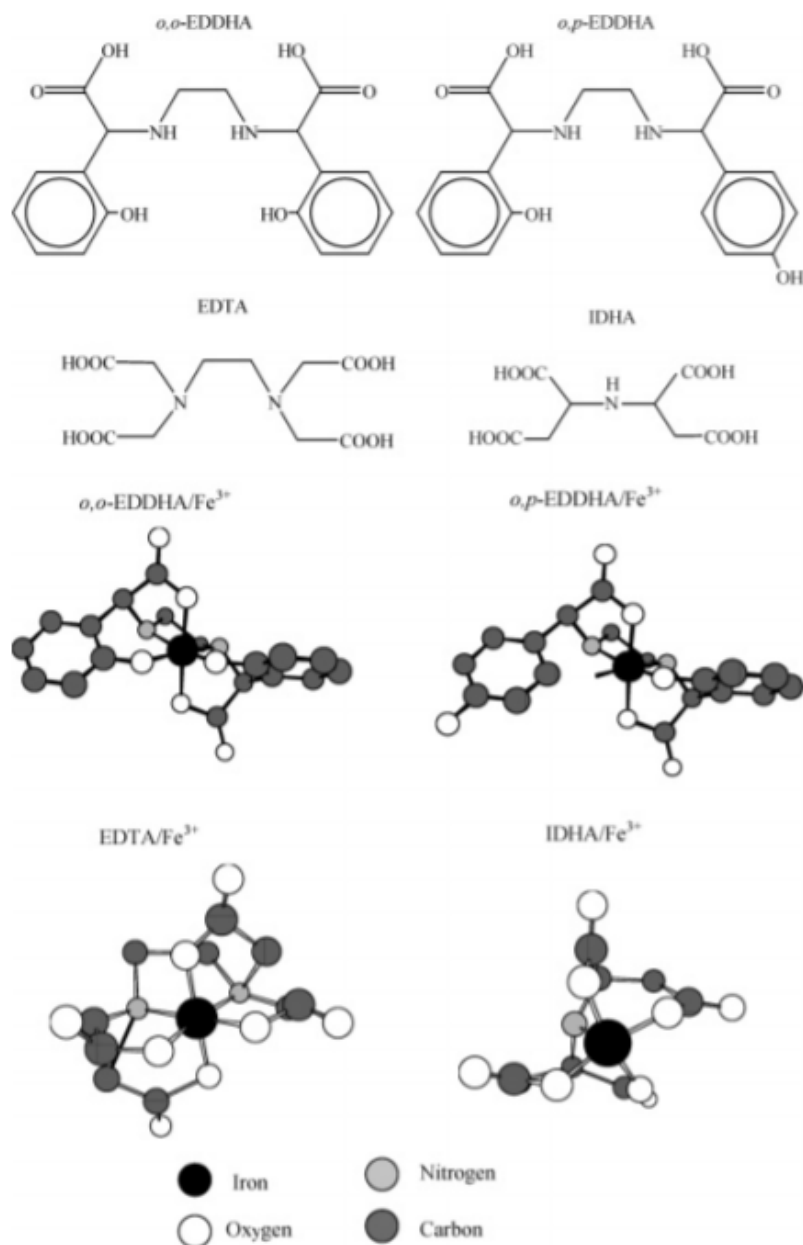

Figure 1. Chelating agents and chelates described in the text.
Fig. 1. Effects of nitrogen (N) and phosphorous (P) concentrations on total phenol mg GAE/g fresh weight, antioxidant activity (DPPH, FRAP, in mg Trolox/g fresh weight) and flavonoids (mg Rutin/g fresh weight) of lavender plants grown hydroponically in perlite.